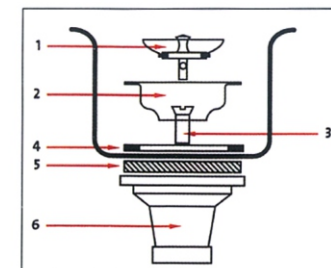

FIGURE 6
10. Wipe away excess silicone caulk with damp cloth. Connect drain and water supply according to manufacturer's instruction. (FIGURE 6)